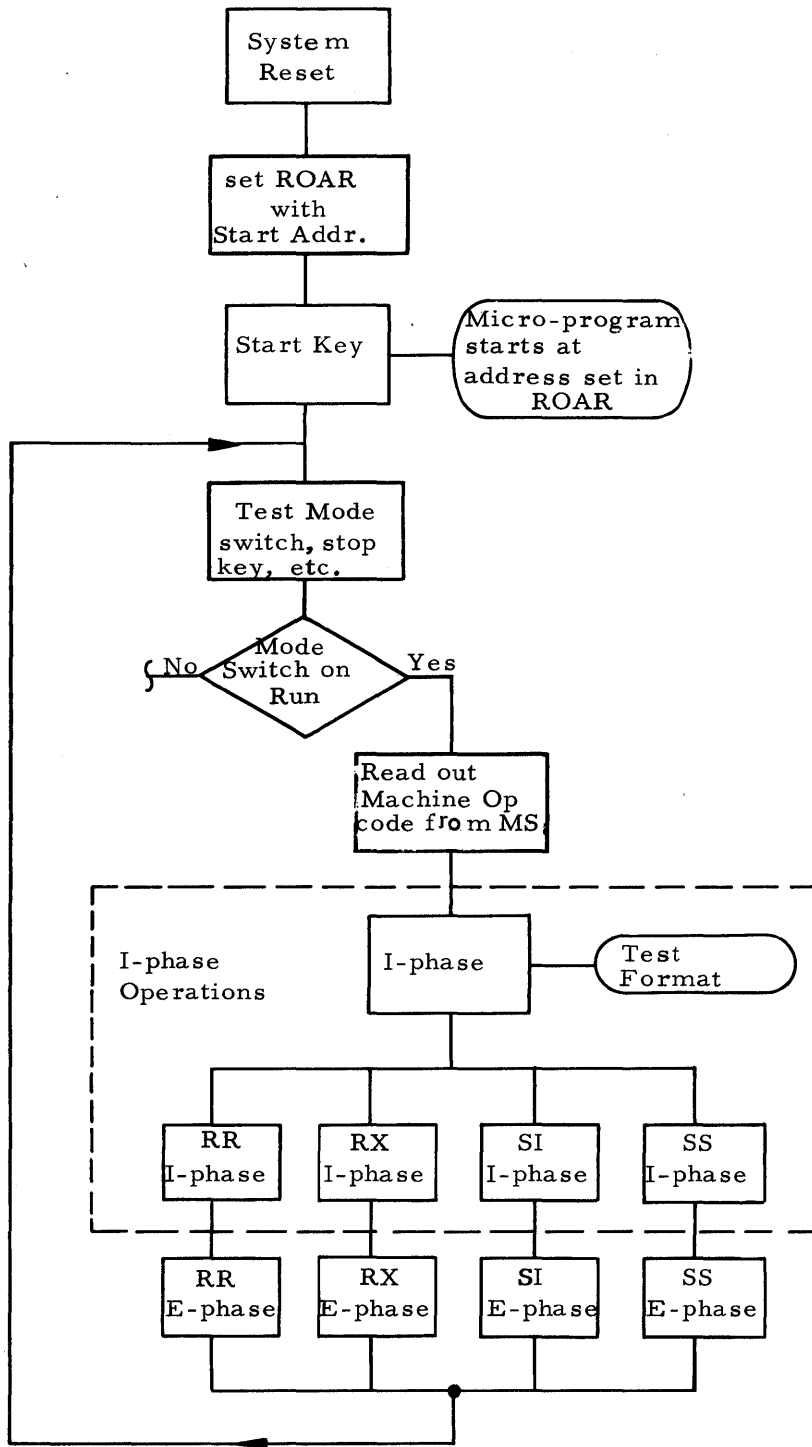

Figure 1-3 Simplified Machine Operation
- The System Reset key forces a specific micro-program starting address into the Read Only Address Register (Figure 1-3).